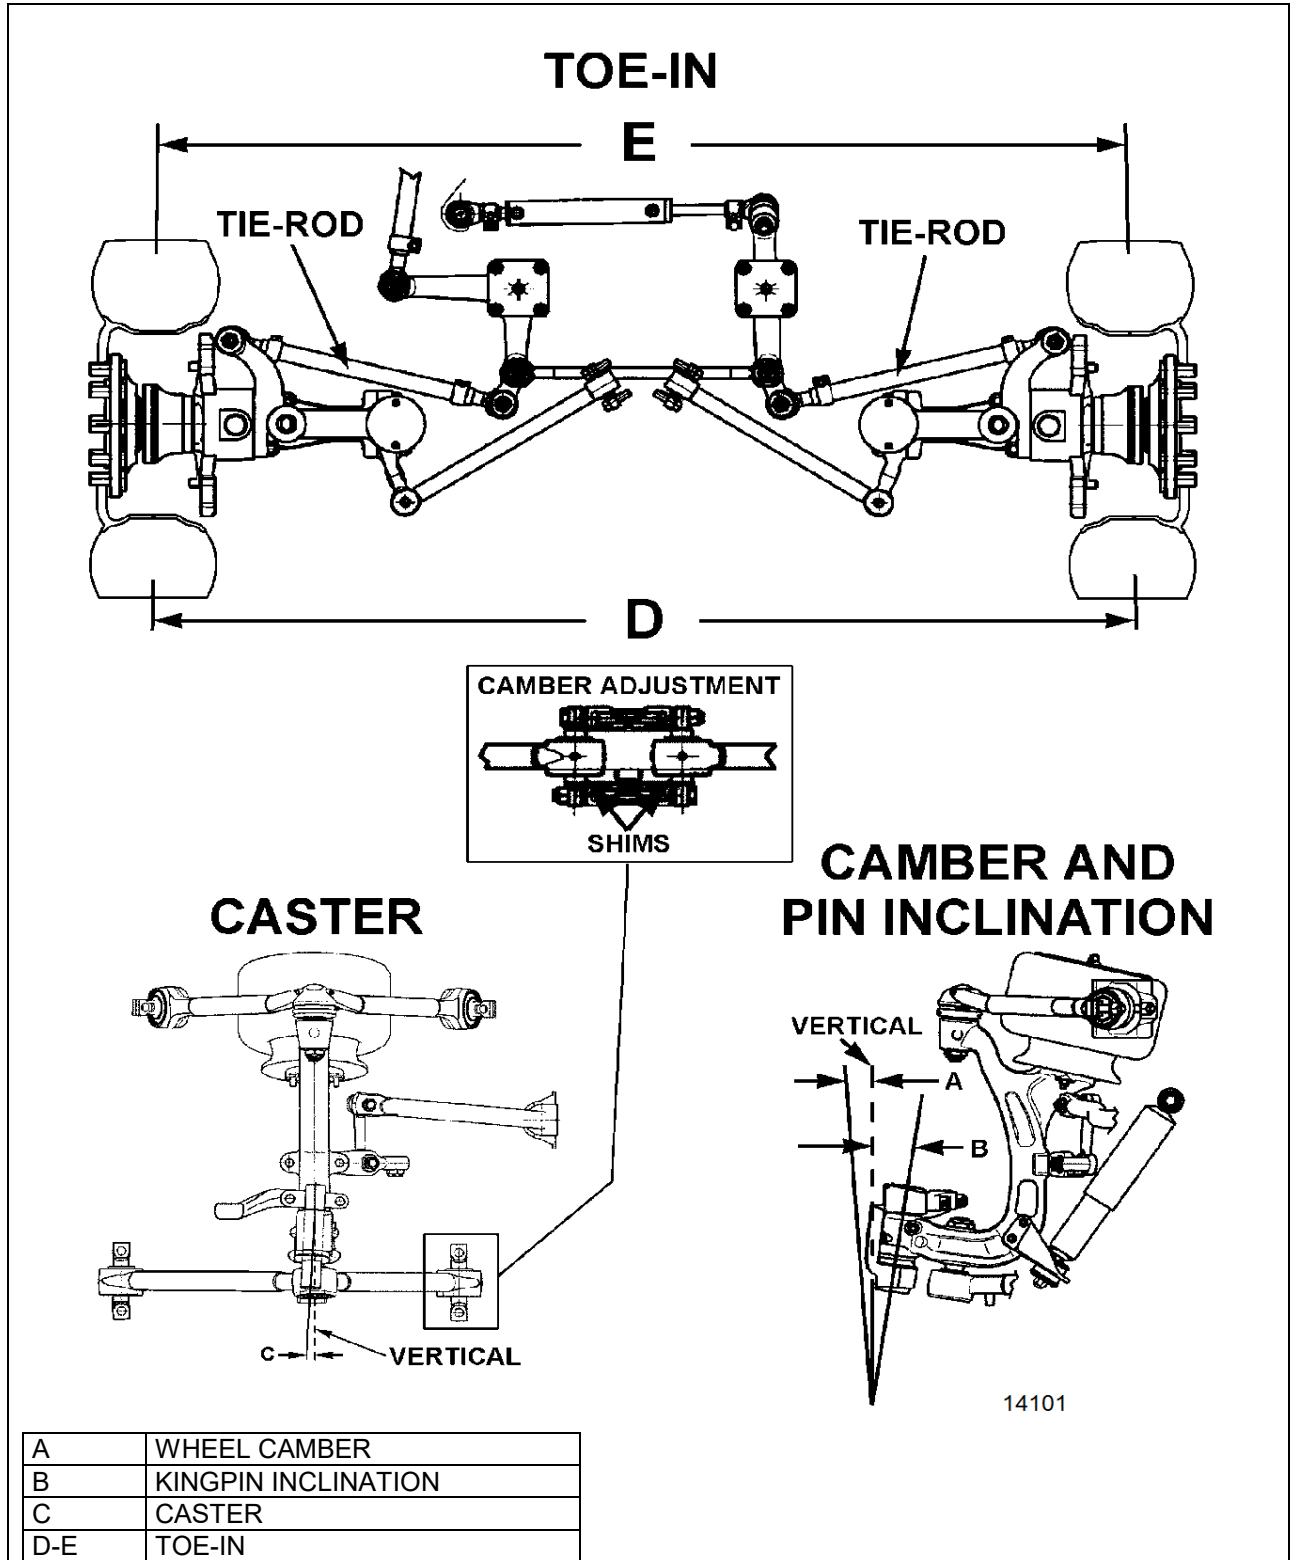

FIGURE 38: FRONT END ALIGNMENT DIAGRAM
**Wheel Camber:** Camber is the number of degrees the top of the wheel is tilted inward or outward from a true vertical (Figure 38).
**Wheel Toe-In:** a slight forward convergence given to the wheels of motor vehicles to improve steering and equalize tire wear (D minus E, Figure 38).
**Kingpin Inclination:** The inclination of the kingpin from vertical toward the center of the vehicle at the top and outward at the bottom (B, Figure 38).
**Front Axle Caster:** The inclination of the kingpin from vertical in the fore and aft direction (C, Figure 38).
Caster variations may be caused by bent upper suspension A-arm, lower suspension A-arm, or kingpin housing. Caster should be adjusted with shims. Precision instruments should be used to measure caster. Shim bell crank and idler arm to adjust caster (Figure 38).